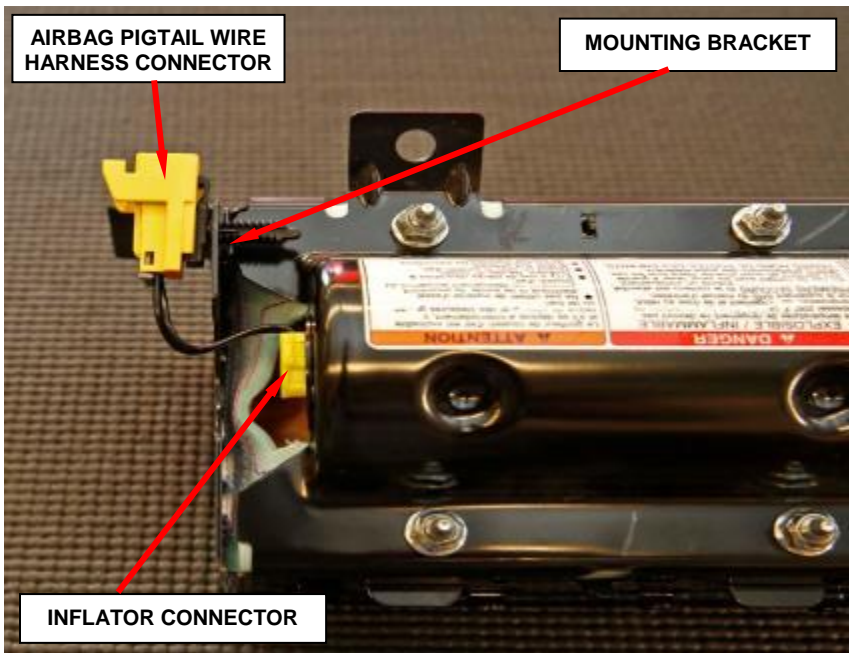

Figure 26 – Wire Jumper Connectors
- k. Connect the new airbag pigtail wire harness connector to the mounting bracket on the housing (Figure 26).
- l. Connect the new inflator connector to the inflator (Figure 26).